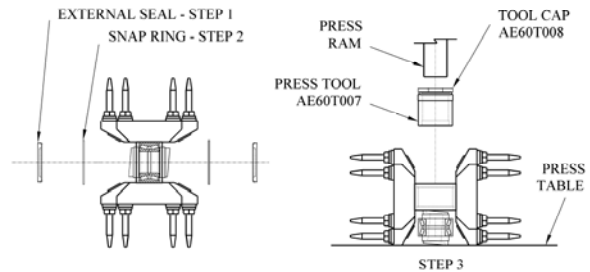

Figure 18. Rotor Assembly
1. With a pry bar remove the external seals Figure 18) on both sides. Generally, seals are damaged and are not reused.